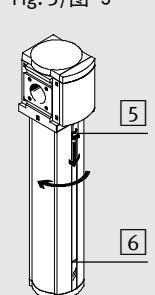

Fig. 5/图 5
If the condensate level is at the mark [6] (→ fig. 5):
- Push the unlocking slide [5] in the direction of the arrow (→ fig. 5).